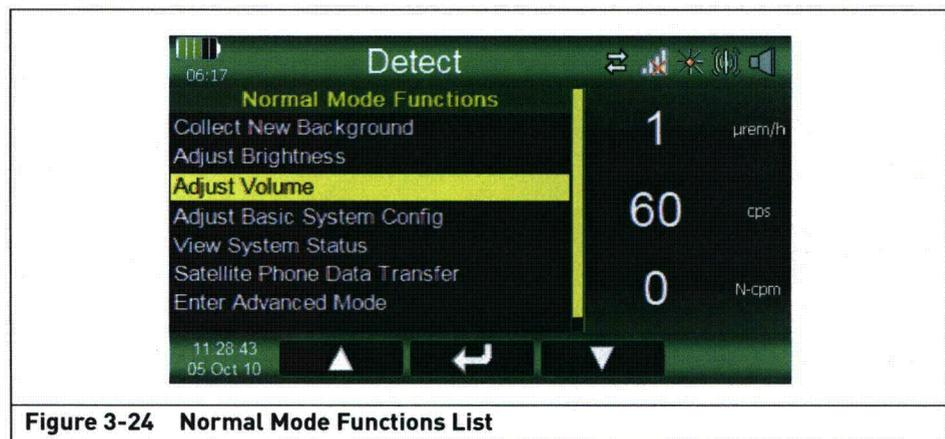

Figure 3-24 Normal Mode Functions List
2. From the Normal Mode Functions screen, use the Down arrow to highlight "Adjust Volume." See Figure 3-24. Press the "Select" key.